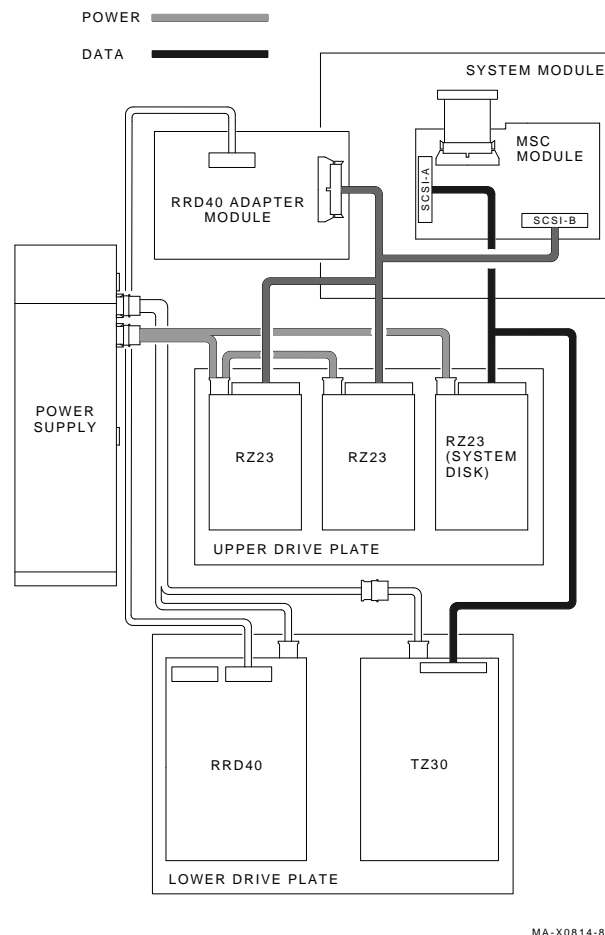

Figure 7-21 Top Drive Mounting Plate Cabling
4. Connect the SCSI bus cables and the power cables to any and all RZ23s and connect the SCSI bus to the RRD40 adapter module (if installed) as shown in Figure 7-21.